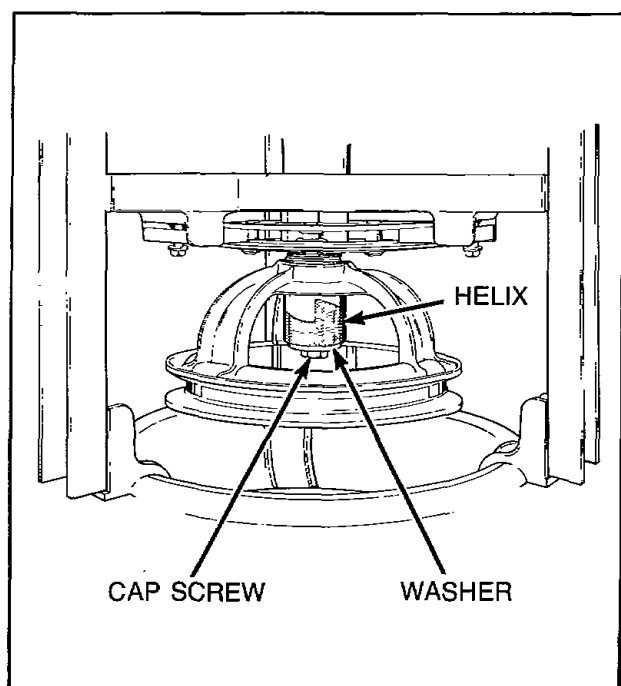

Figure 32
- k. Remove cap screw, washer and helix from bottom of input shaft of transmission assembly, *Figure 32*.
- n. Remove cap screw, washer and helix holding drive pulley to transmission shaft, *Figure 32*.